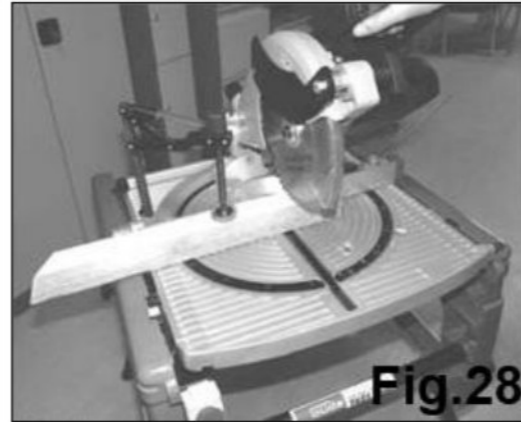

Fig.28
2. Secure the workpiece firmly, using a clamp, as shown in the **Fig. 28**.